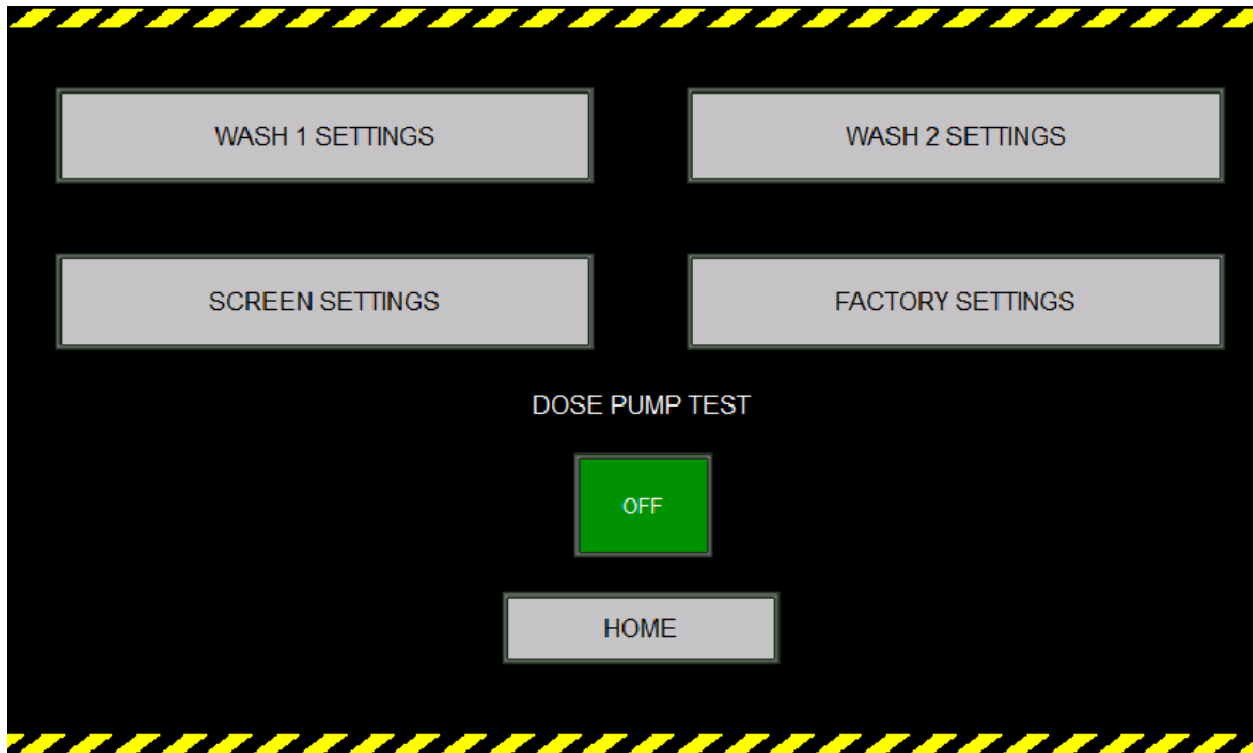

Figure 6 - Settings Screen
3. Prime sanitizer line with dose pump test button on settings screen. (See Figure 6)